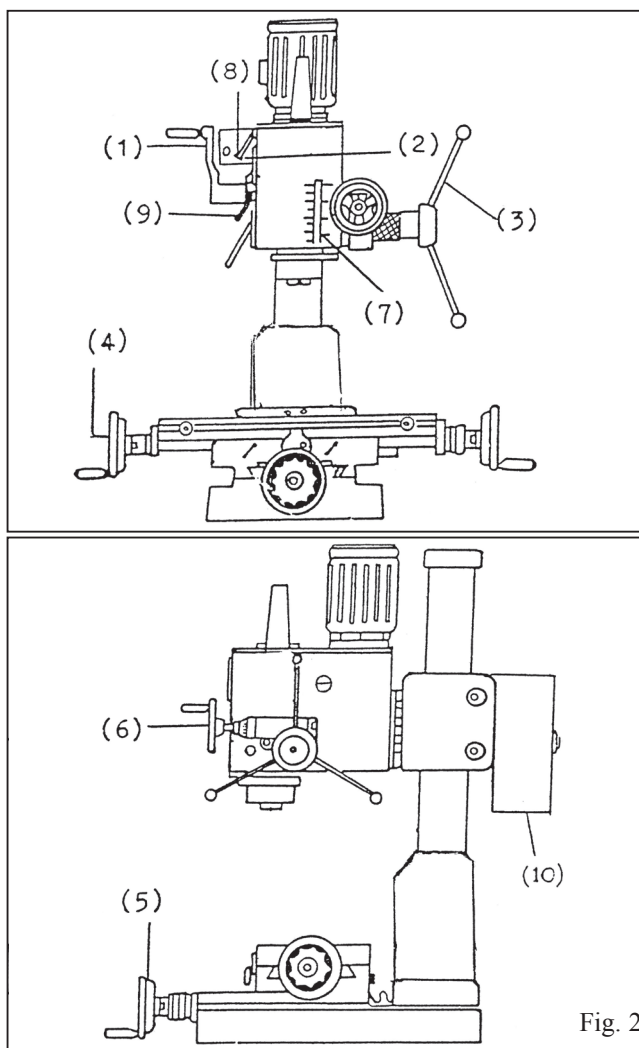

Fig. 2
2. After cleaning, coat all bright work with a light lubricant. Lubricated all points as fig. 2.
#### 8. USE OF MAIN MACHINE PARTS (SEE FIG. 2):